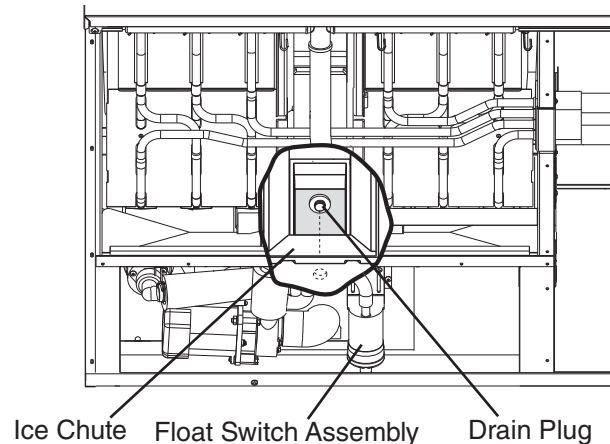

Fig. 1
- 3) Remove the insulation panel, then remove the drain plug located on the lower front part of the ice chute. See Fig. 1. Allow the water tank to drain.